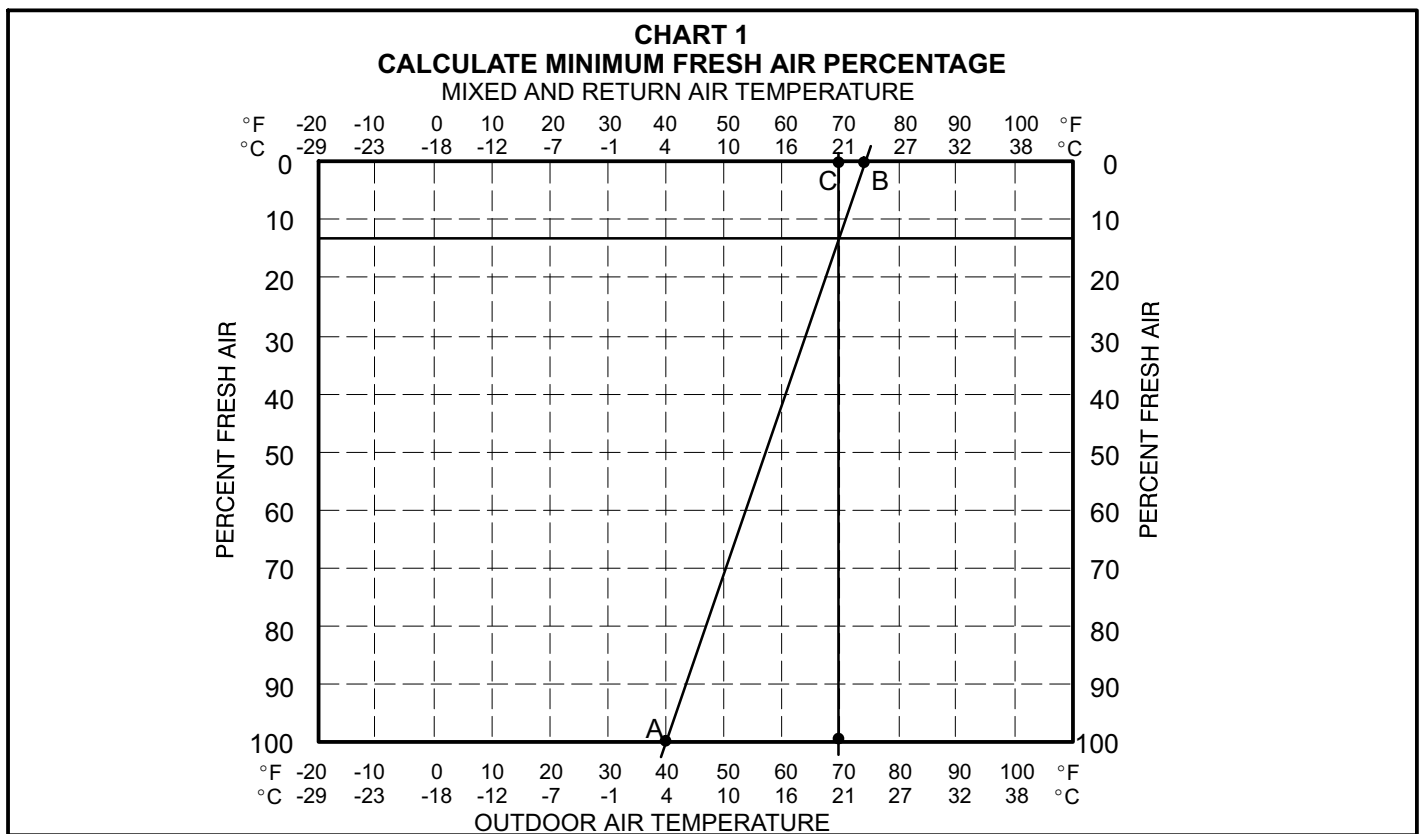

FIGURE 24
- 4- Measure return air temperature. Mark that point on the top line of chart 1 figure 24 and label the point "B" (74°F, 23°C shown).
4. Measure outdoor air temperature. Mark the point on the bottom line of chart 1 figure 24 and label the point “A” (40°F, 4°C shown).